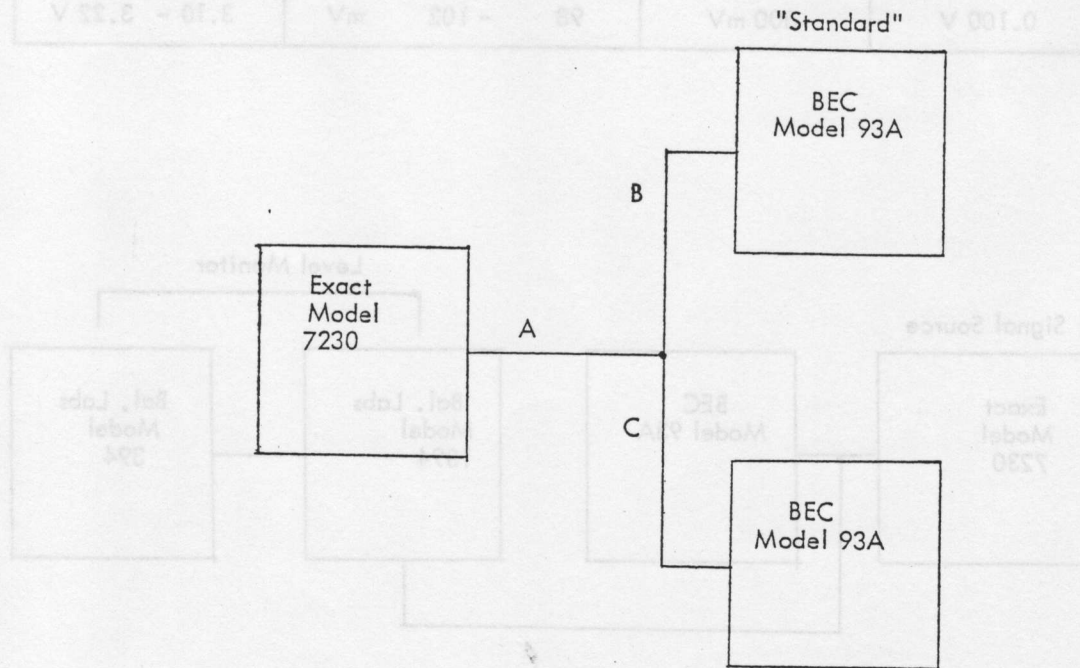

Figure 4.3. High Frequency Check
h. A simpler and faster means of checking the high frequency response may be used if a freshly-calibrated Model 93A is available. Connect the equipment as shown in Figure 4.3. Cables A, B, and C must be coaxial. Cables B and C must be identical in length and not longer than 12 inches; Cable A should be no longer than 18 inches. All cables should be of the same basic type: i.e., RG58U. The indications on the unit being tested are compared with those of the unit serving as the standard.